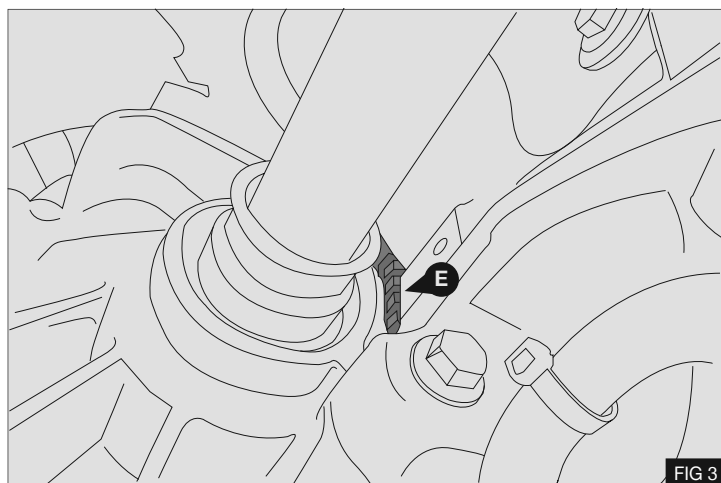

FIG 3
4. Lock the engine flywheel (E) using a large flat screwdriver – Fig 3